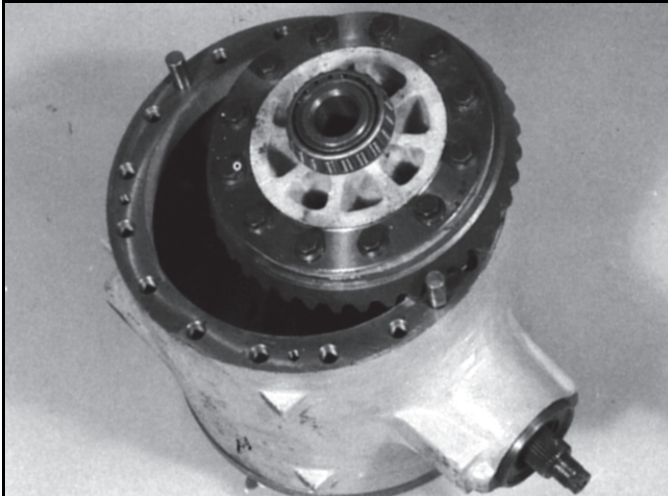

FIGURE 8-39
9. If both brake piston housings were removed, install one at the opposite end of the crownwheel Figure 8-39, using the procedure in Step 10. Then install the crownwheel/ differential assembly into the drive head.